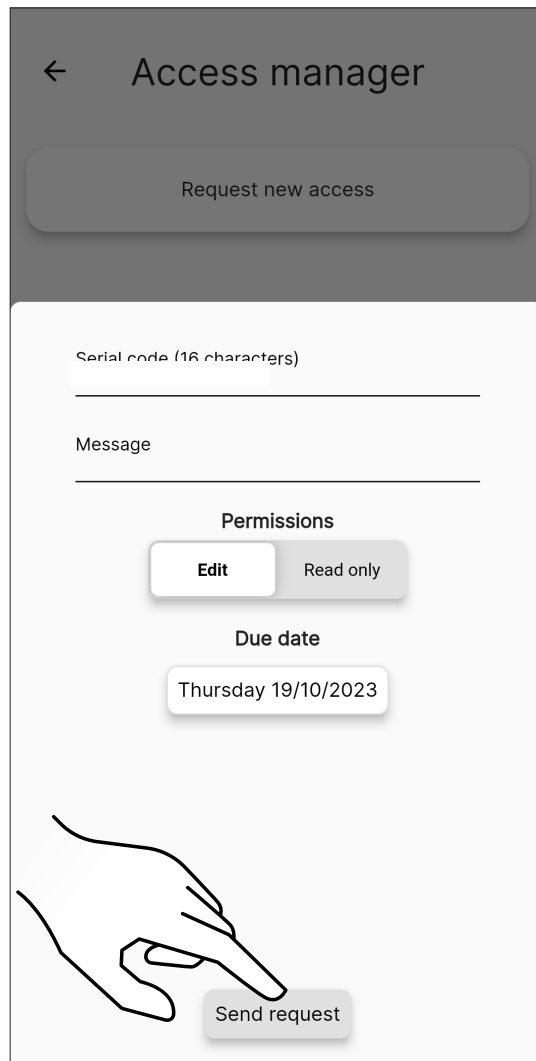

Fig. 32
- Confirm with “Send request” (Fig. 32)